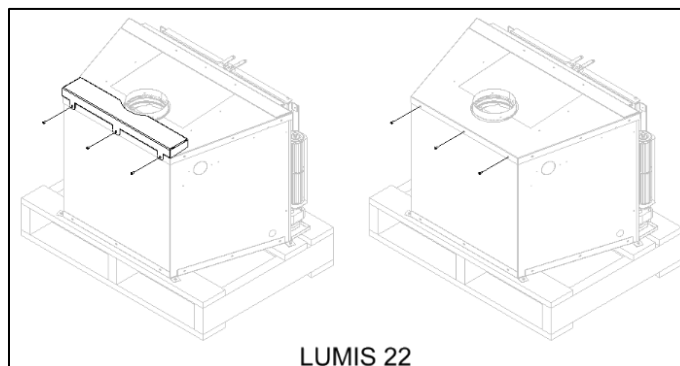

Figure 3-6: LUMIS 22 Back Shipping Bracket Removal
- e) The LUMIS 22 is equipped with a Shipping Bracket on the back. Remove it (recycle) and screw the top of the unit using the same screws as shown in Figure 3-6.